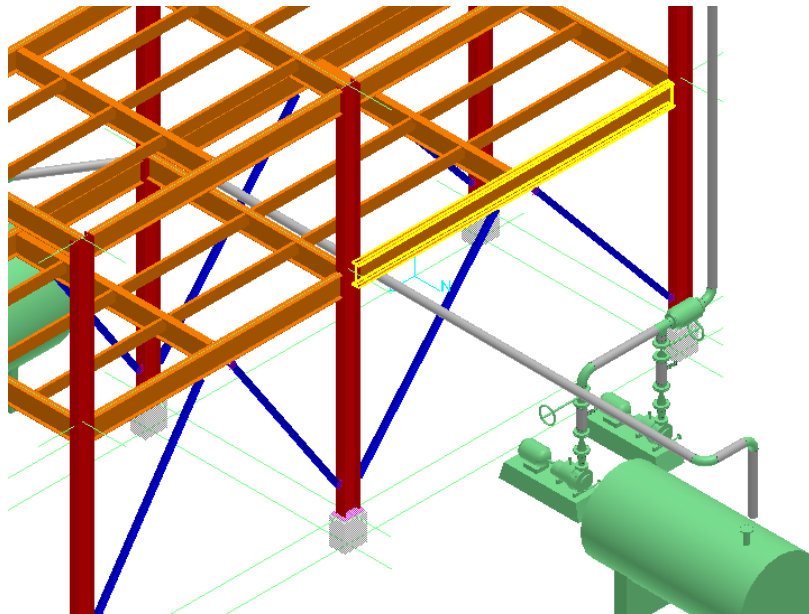

Figure 7: The Supporting Structure
4. In the select structure smartstep, select the beam that crosses the pipe straight feature **2001-P**, as highlighted in Figure 7.